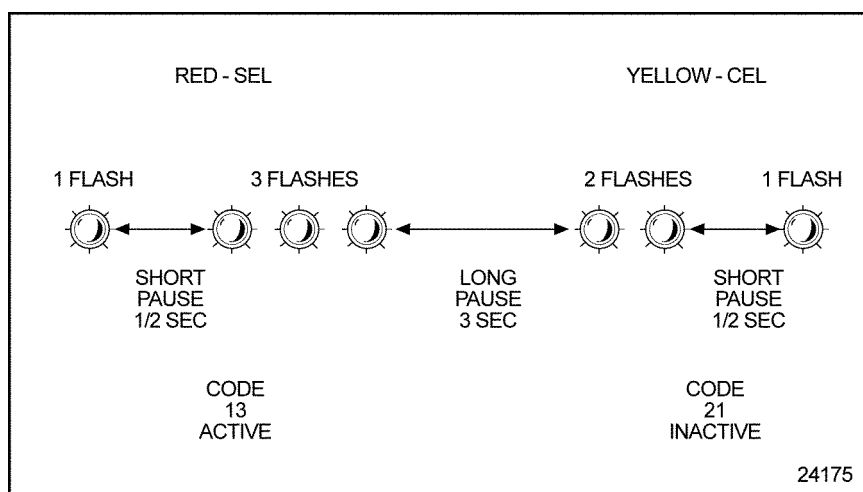

Figure 17-1 Flash Code Method
2. Press and hold the Diagnostic Request Switch. As an example, observe Code 13 (active) and Code 21 (inactive) flashing out on the CEL/AWL and SEL/RSL; see Figure 17-1.